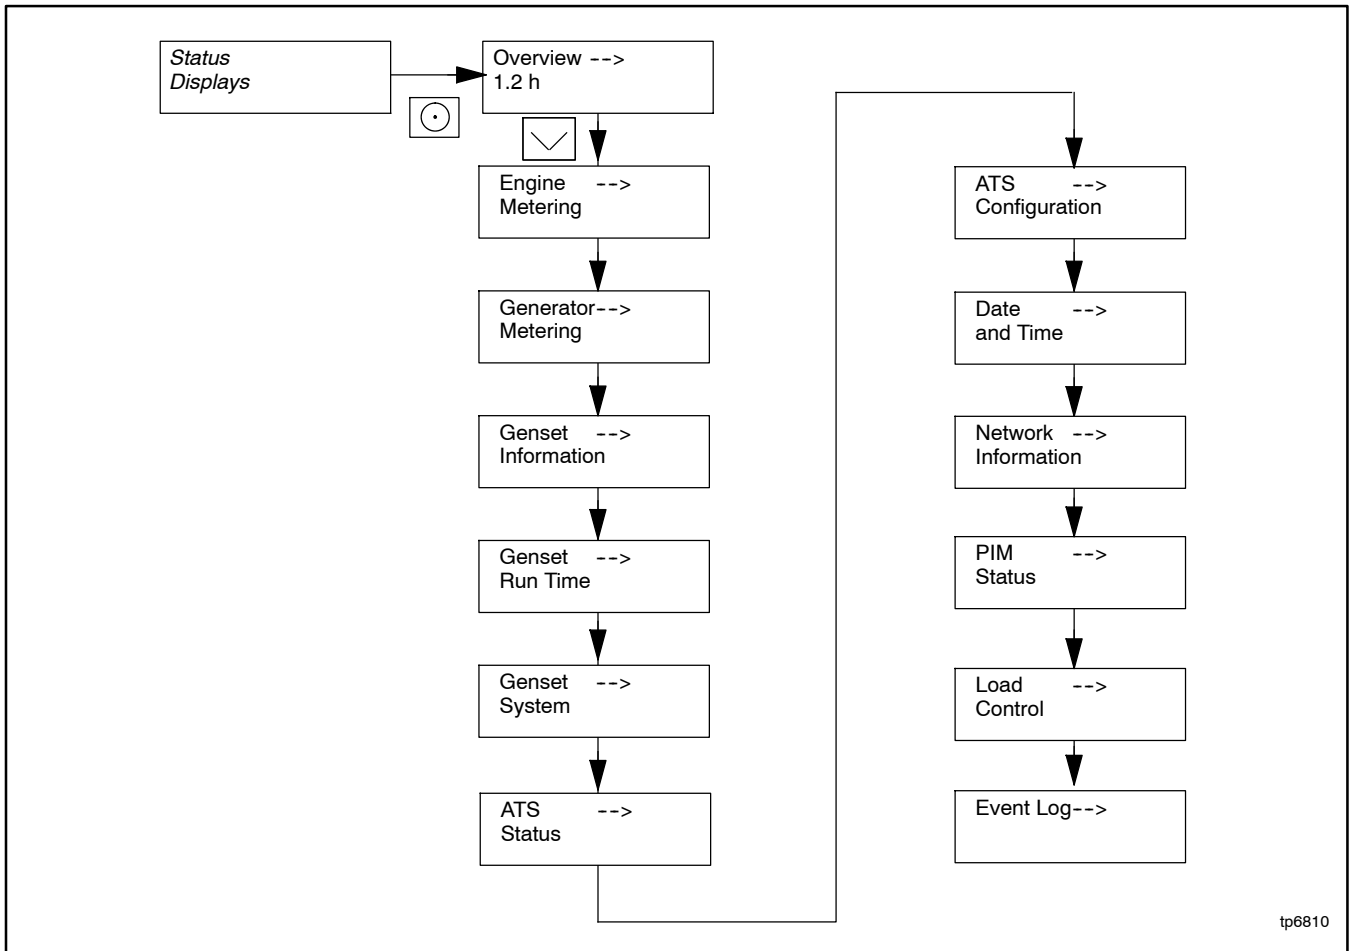

Figure 2-2 RDC2 Main Menu
2. Press the Select button to go to the main menu. See Figure 2-2.